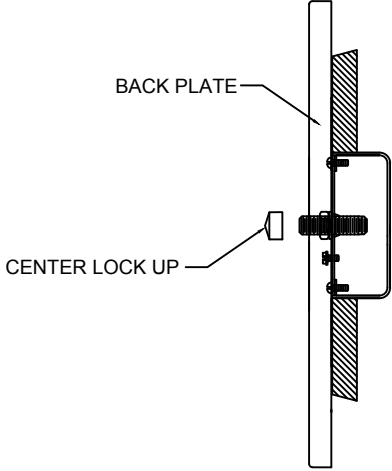
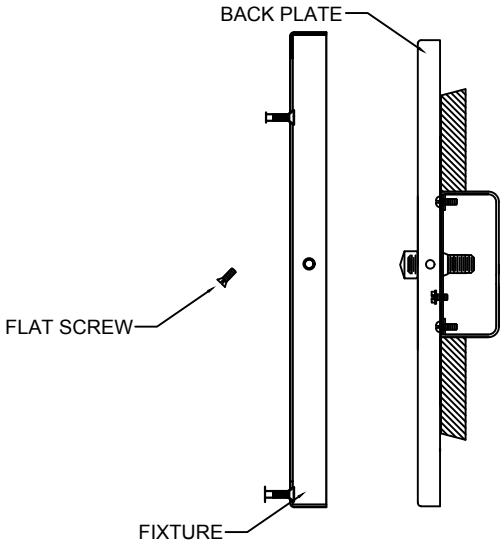

FIGURE-02
FIGURE-03
- 5. Attach the backplate to the cross bar secure it with center lock up. (See Figure-02) then attach the fixture on the backplate fasten it with flat head screw.(See Figure-03)